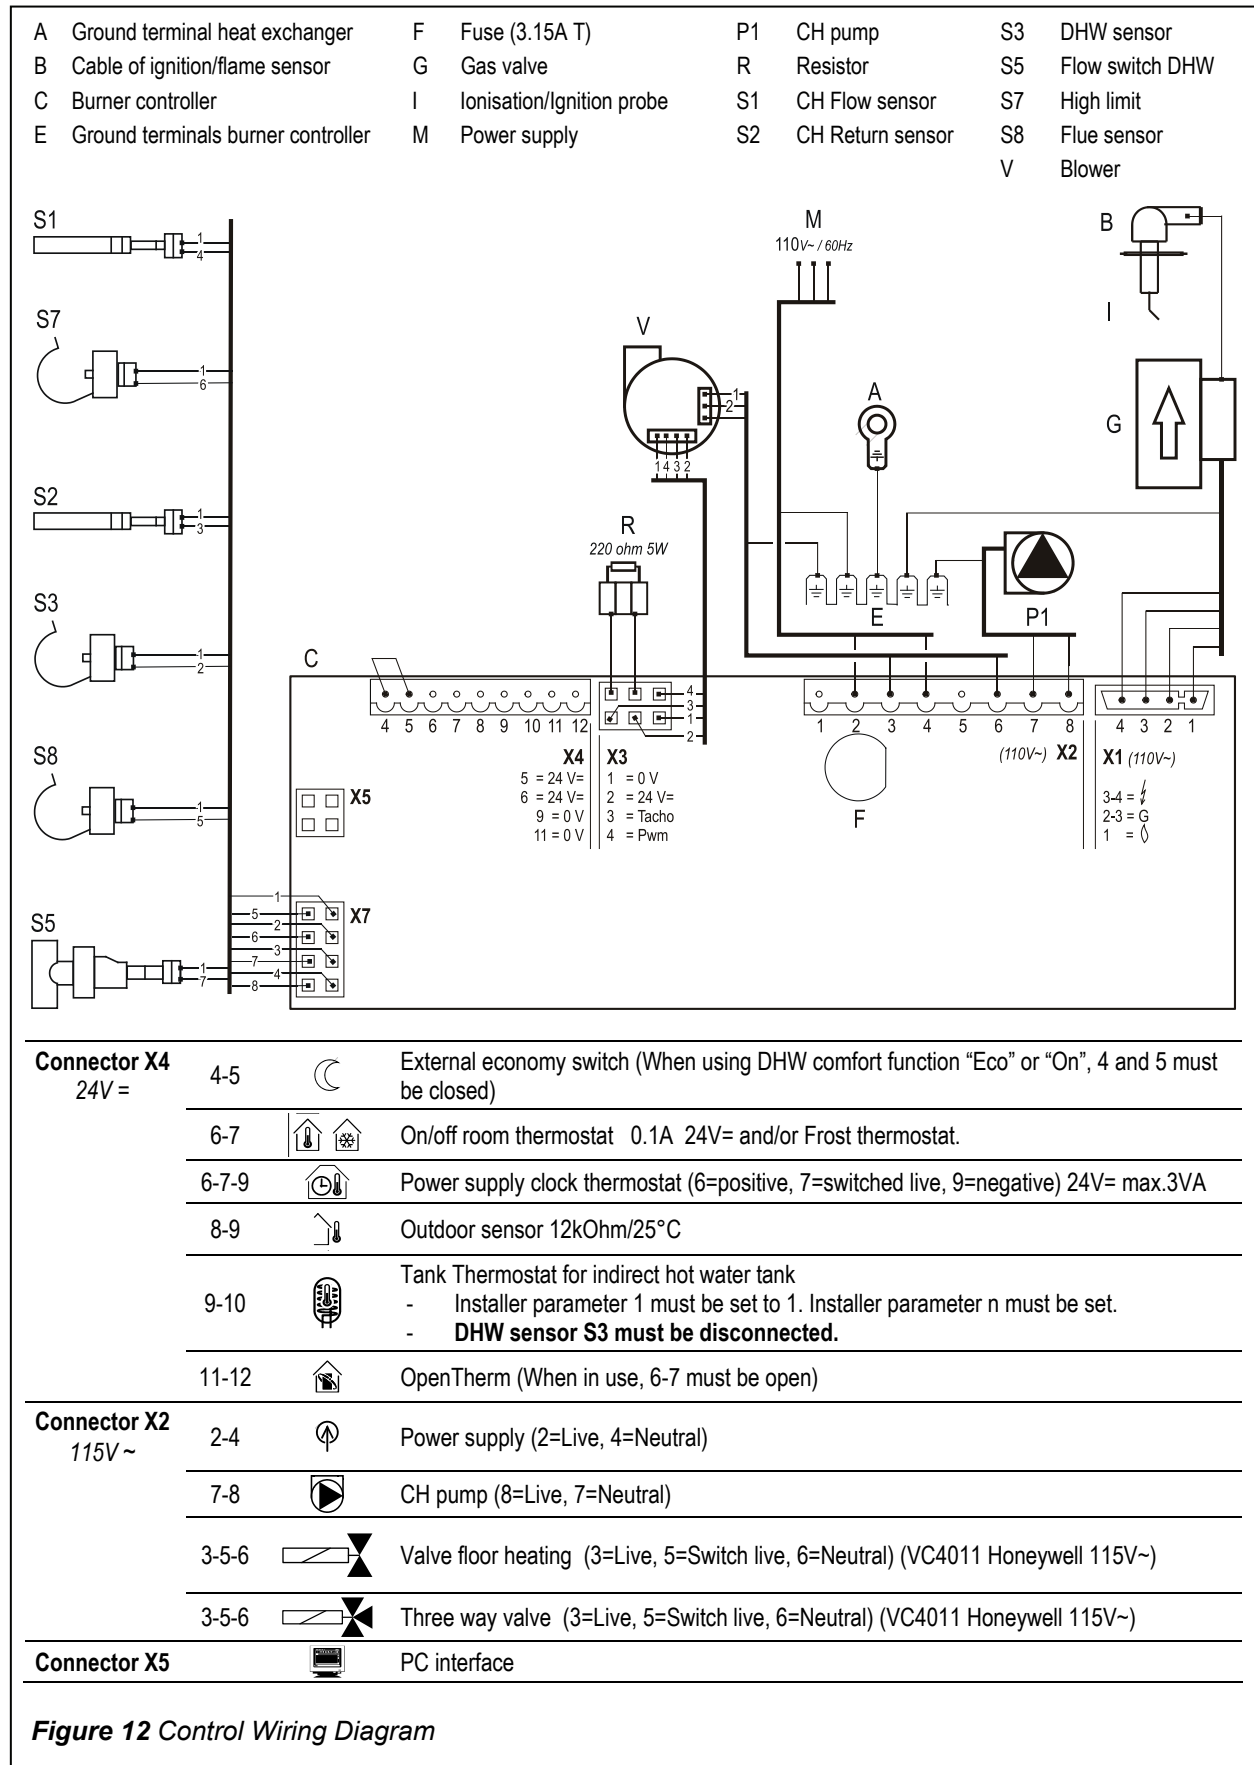

Figure 12 Control Wiring Diagram
3. Refer to electrical wiring diagram in Figure 12 to make the electrical connections.